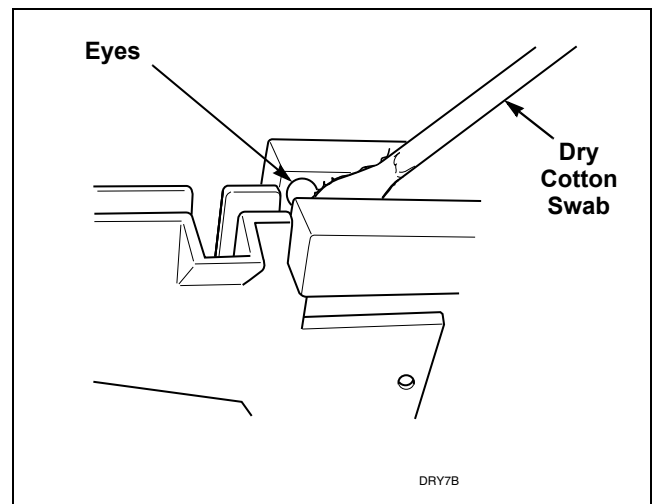

Figure 23
- j. Check coin drop sensor for dust or dirt on eyes. Wipe eyes with dry cotton swab. Refer to *Figure 23*.